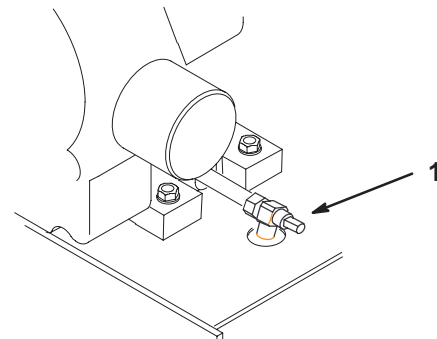

Figure 36
3. Place a pan below the oil drain. Use either a flat screw driver, 3/8 inch or 10 mm wrench to open valve (Fig. 36).
4. Rotate valve end clockwise to close valve. Rotate valve end counterclockwise to open valve (Fig. 36).